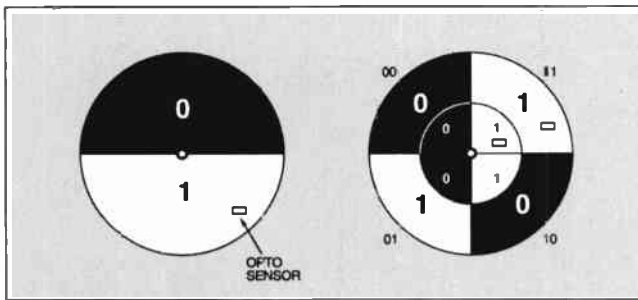

Fig.3. Encoder disc pattern for 180° and 90° resolution.
A disc with just two sectors – one transparent, one opaque – and one optoswitch would provide just two (21) shaft positions, i.e. a resolution of 180°. Four sectors would require two optoswitches but would be capable of resolving four (22) shaft positions, in other words a resolution of 90°. Two such encoder disc patterns are shown in Fig.3.